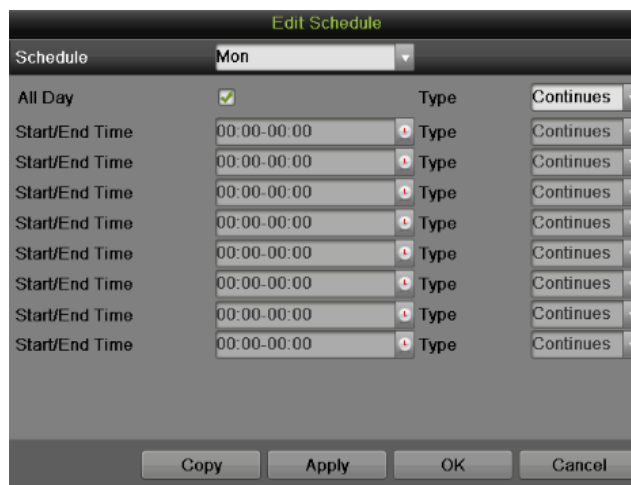

Figure 78 Edit Schedule Menu
- 1) Click the Edit button on the bottom right to pop-up the Edit Schedule menu, as shown in **Figure 78**.